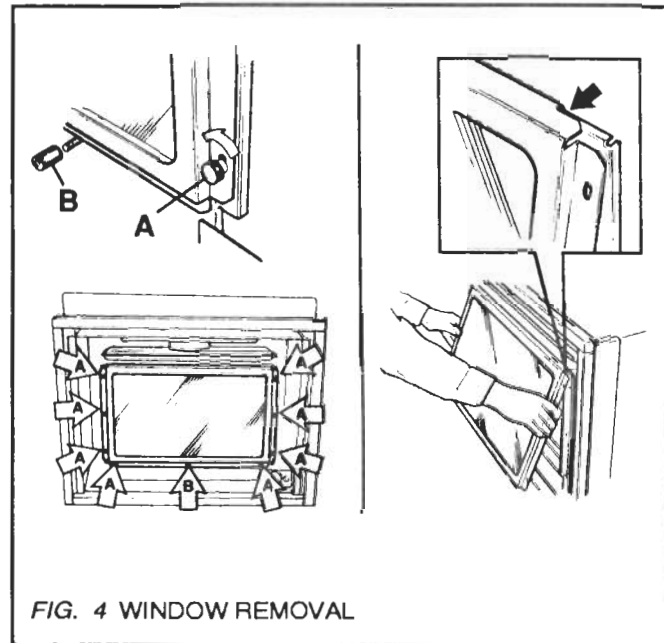

FIG. 4 WINDOW REMOVAL
5.1. Remove Window & Logs (See Fig. 4).